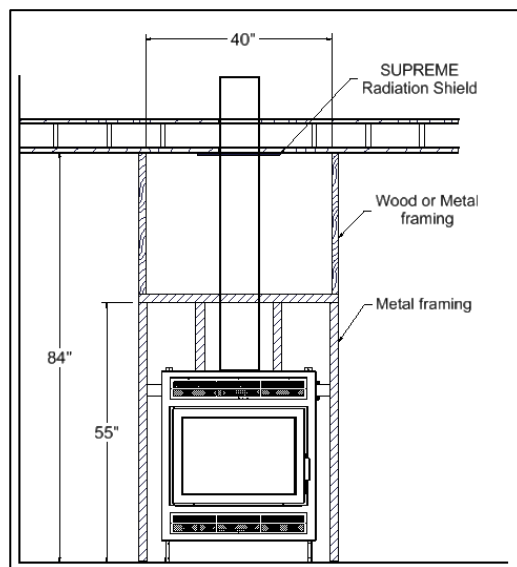

Figure 3-8: Framing Design
The Astra 32 can be placed directly onto or against normal, combustible construction materials such as lumber, plywood, millboard, particleboard, drywall and decorative wood paneling. The fireplace should NOT be placed directly against or be in contact with an insulation material. A portion of the framing on the face of the chase must be constructed with nominal 2" x 3" or 2" x 4" metal studs and the remainder can be constructed with nominal 2" x 3" or 2" x 4" lumber. Refer to Figure 3-8 for framing design. The framing must be nailed or screwed onto the floor and to the ceiling.
**CAUTION:** Do not construct the framing with combustible material in front of the chimney; respect the framing design outlined in Figure 3-8.